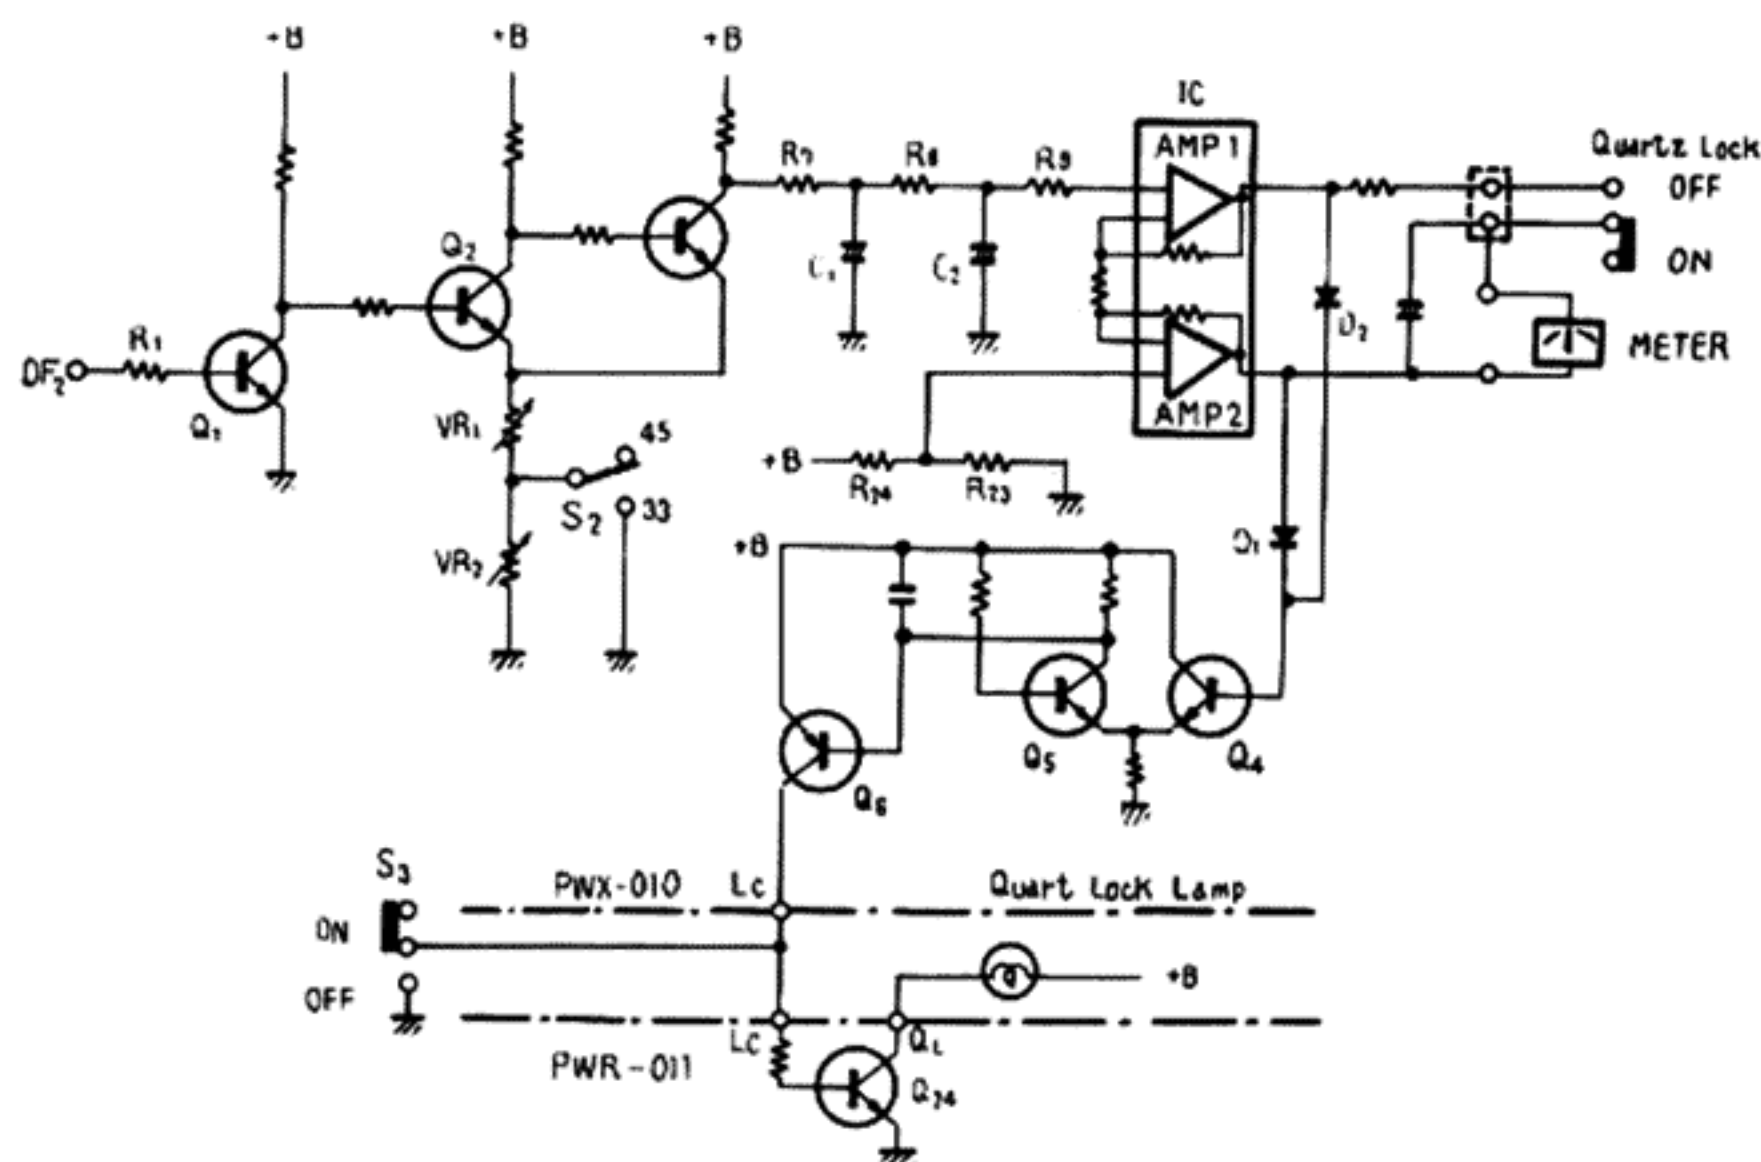

Fig. 3
3.1 METER DRIVE CIRCUIT (See Fig. 3) (PWX-010)